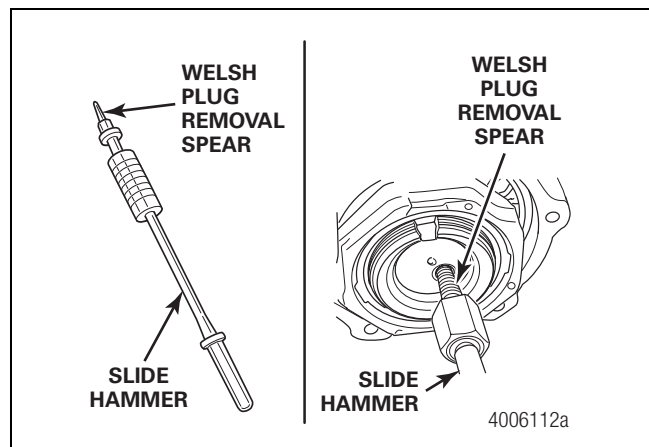

Figure 4
5. Use a slide hammer fitted with the spindle end plug removal spear to remove the spindle end plugs from both ends of the axle. Use care not to score the inside diameter of the spindle bore. Figure 4. A slide hammer with spindle end plug removal spear to help remove these plugs is available from ArvinMeritor. Refer to the Special Tools section at the back of this document for part numbers of special tools and supplies.